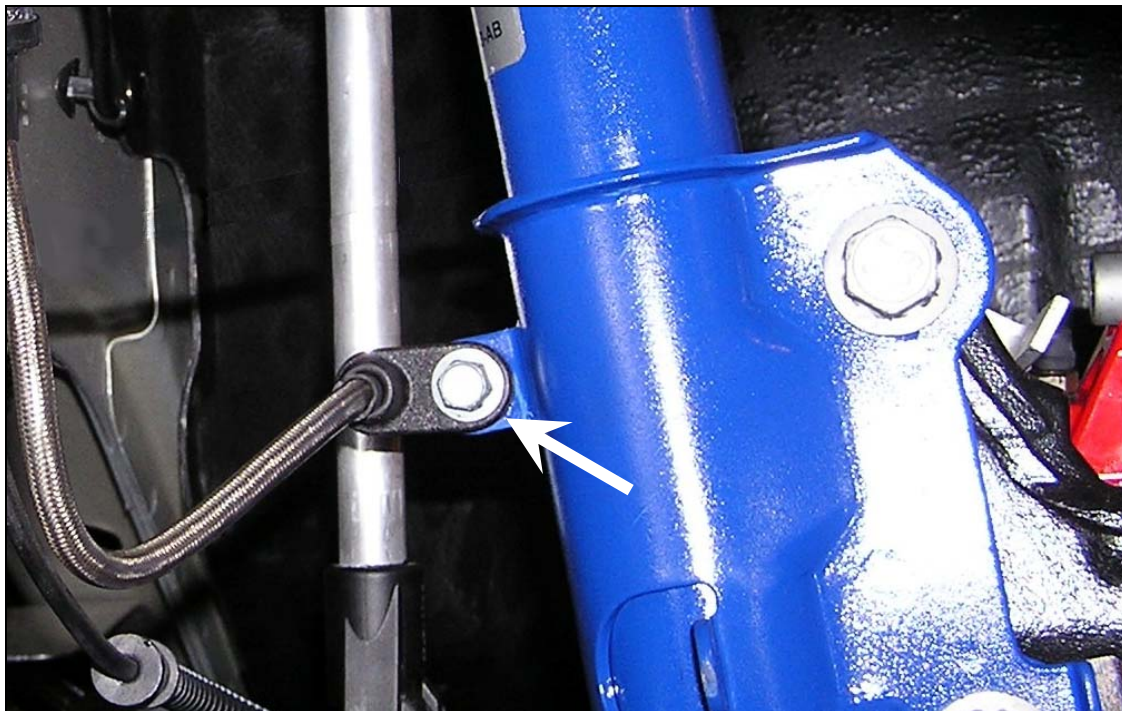

Figure 15
2. Attach the hose mid mount to the strut using the original strut bolt. Position the hose mount perpendicular to the strut and torque the bolt to 20 Nm (177 lb-in). Refer to Figure 15.